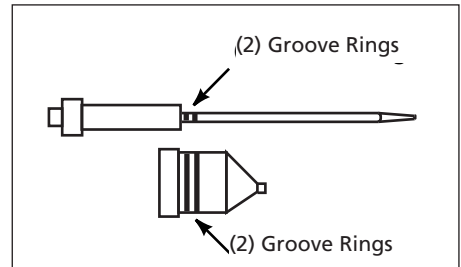

Figure 4 - Thick Material Needle Kit
4. The thick material needle and nozzle have 2 groove rings as shown in Figure 4.